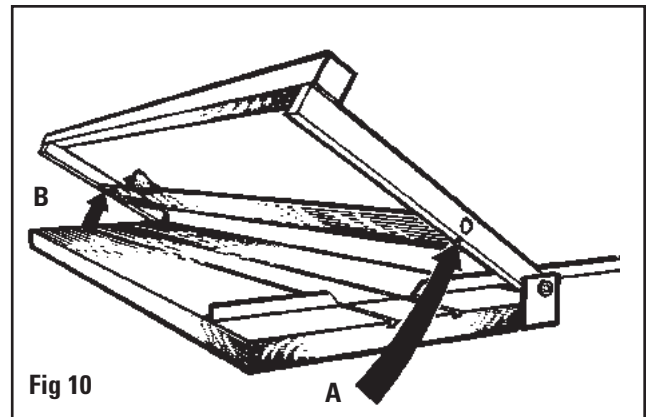

Fig 10
2. Loosen screws A & B from bottom support arms. **Fig 10**